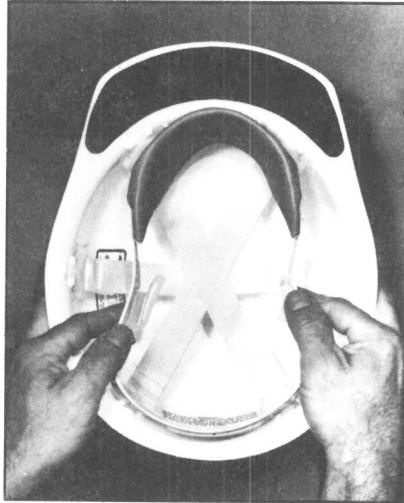

FIGURE 7
c. Remove the angle buttons from the slots in the tabs. The sweatband is now being held in the cap or hat at four points, two in front and two in back. The cap or hat is now ready to have the headset installed. Rotate so the front of the cap or hat faces you. See Figure 7.